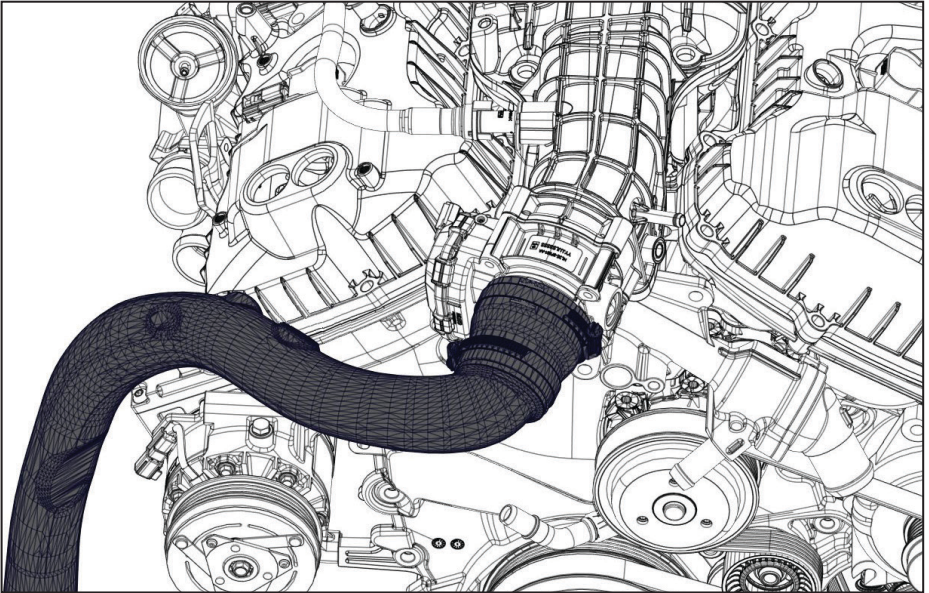

Figure 11 — Remove intake tube
- Remove the intake tube and Charge Air Cooler (CAC) ducting underneath the engine (Figure 11).